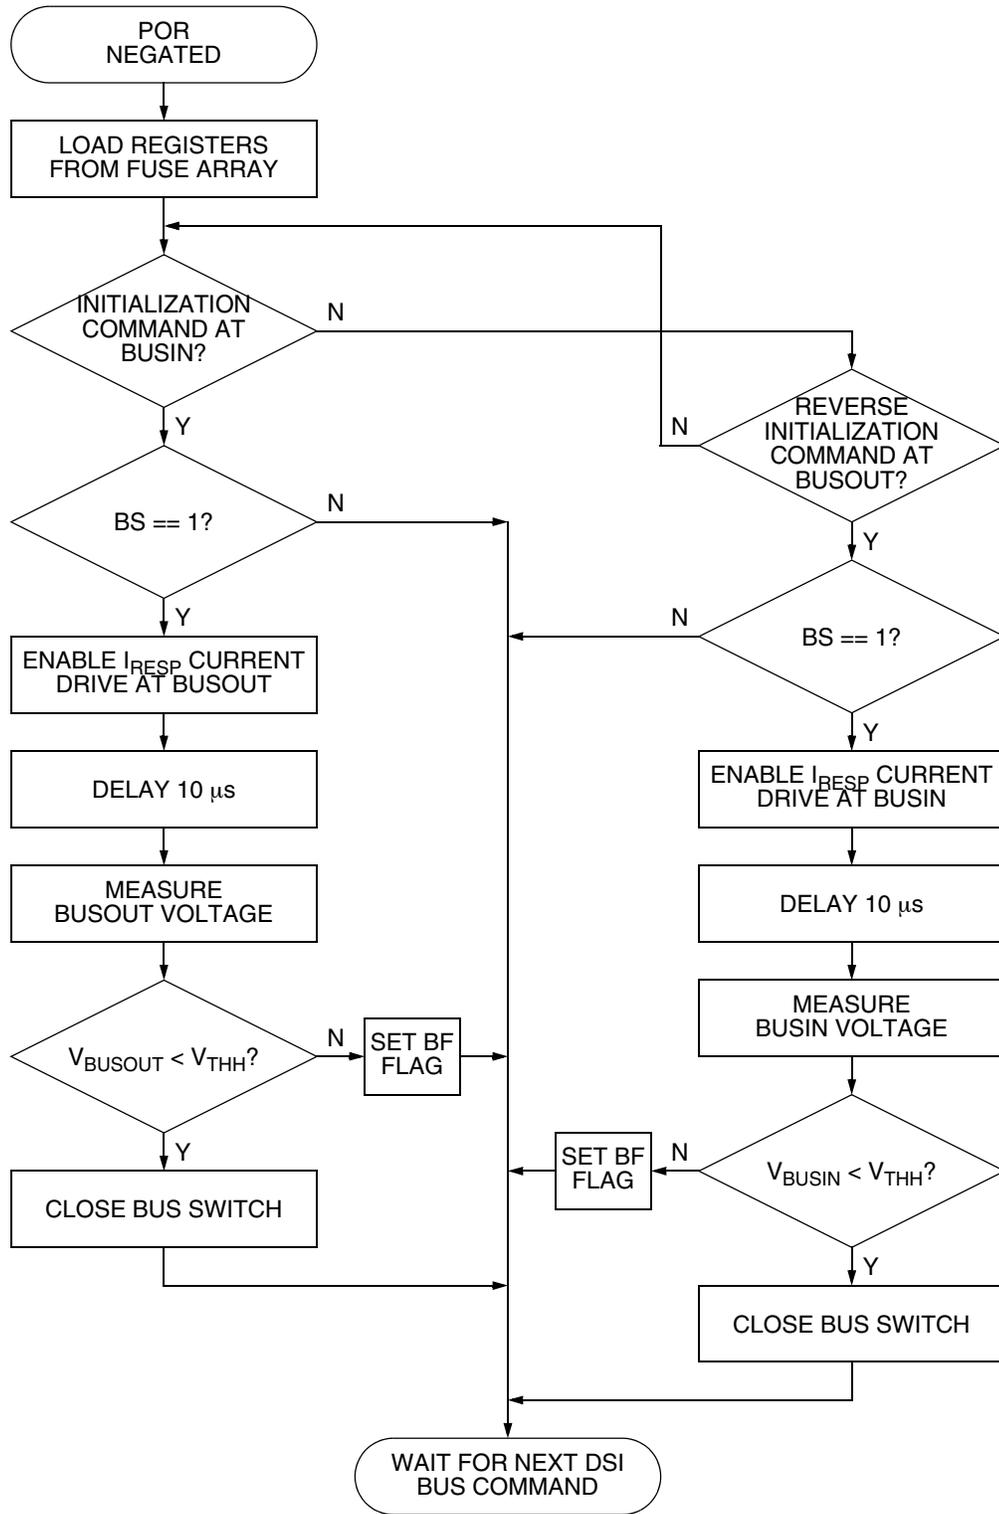

Figure 4-1. Initialization Sequence
Figure 4-1 illustrates the sequence of operations performed following negation of internal Power-On Reset (POR) and execution of a DSI Initialization command. Initialization commands are recognized only at BUSIN. The BUSOUT node is tested for a bus short to battery high voltage condition, and the Bus Fault (BF) flag set if an error condition is detected. If no bus fault condition is detected and the BS bit is set in the command structure, the bus switch will be closed. If the BS bit is set, the DSI bus voltage level is disregarded for approximately 180 μ s following initialization to allow the hold capacitor on a downstream slave to charge. If the device has been pre-programmed, PA3 - PA0 and A3 - A0 must match the pre-programmed address. If no device address has been previously programmed into the OTP array, PA3 - PA0 contain the device address, while A3 - A0 must be zero. If any addressing condition is not met, the device address is not assigned, the bus switch will remain open and the device will not respond to the Initialization command.